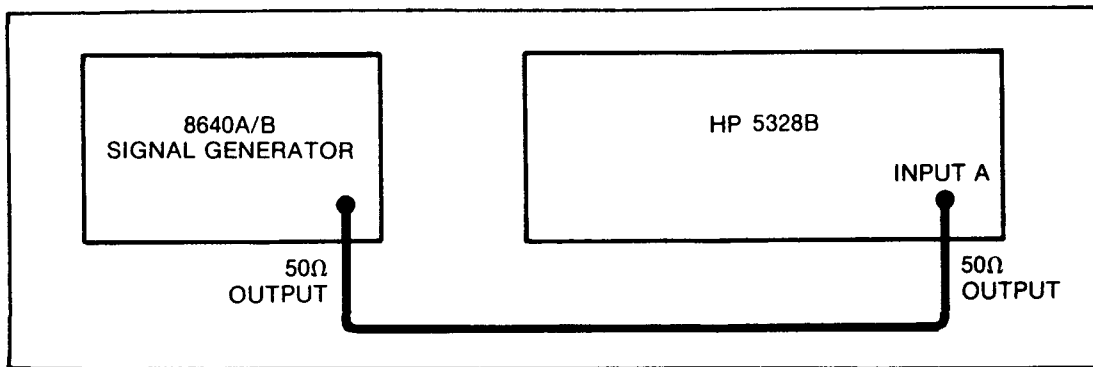

Figure 4-11. Period Test Setup — 10 MHz at 50 mV rms
Description: A 10 MHz signal from a generator drives the Model 5328B's Channel "A" as shown in Figure 4-11.
- a. Set up equipment for this test as shown in Figure 4-11.